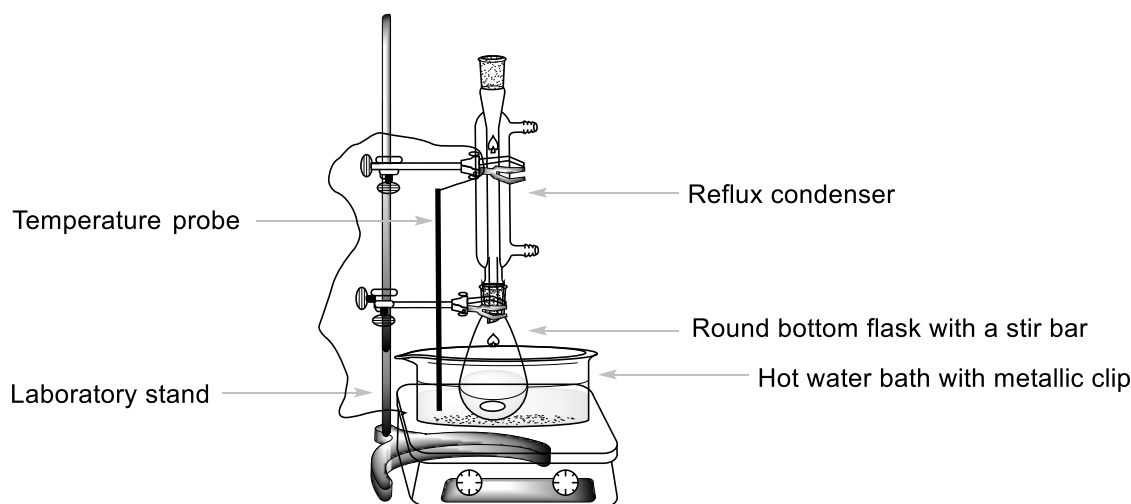

Figure 1. Setup for heating the reaction mixture in a water bath.
3. Place the round bottom flask into the hot water bath. Attach an air reflux condenser (water connection is not needed) and secure it in the upper part by a loosely attached large clamp, as shown in Figure 1. Let compound **A** dissolve with stirring.
Preheat the water bath to 80 °C. Insert a magnetic stir bar into the 50 cm³ ground-joint Erlenmeyer flask containing the organic phase **O2** from step II.6 and add 0.300 g of 2,4-dinitrophenylhydrazine (**DNPH**). In a graduated cylinder, measure 10 cm³ of ethanol. Using a glass Pasteur pipette, rinse the glass vial with 5 × 2 cm³ of ethanol to transfer all of the **DNPH** into the Erlenmeyer flask. Place the Erlenmeyer flask into the hot water bath, attach a reflux condenser (similar setup as in Figure 1) rinsed with ethanol. Through the top opening of the condenser, add 3 cm³ of 20% HCl using a funnel and stir the reaction mixture at 80 °C for 2 minutes. Fine orange crystals of product **C** starts to form.